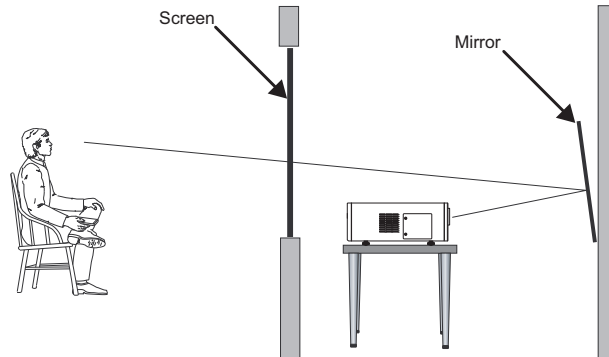

Figure 3-6. Folded Optics
Folded Optics ➤ In rear-screen applications where space behind the projector is limited, a mirror may be used to fold the optical path, as shown in Figure 3-6. The position of the projector and mirror must be accurately set. If you are considering this type of installation, contact your dealer for assistance.
- Rear Projection** ➤ If the projector is used in a rear-projection application (see Figure 3-6), press ▼ repeatedly to select Rear Projection from the System Menu. Press ◀ or ▶ to set it to **On**.